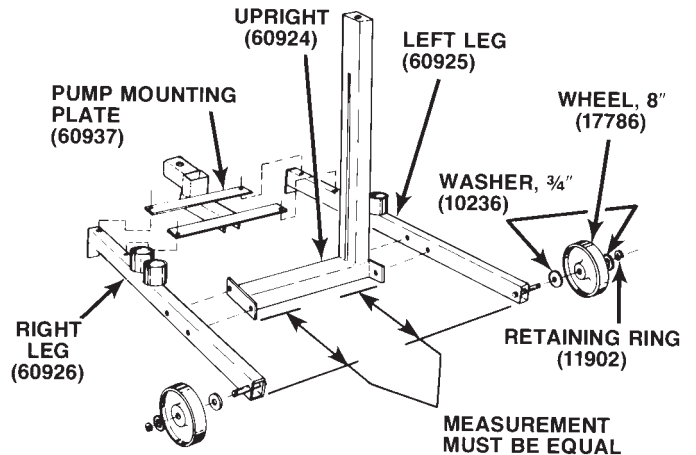

Figure 1
See Figure 1:
1. Adjust vertical set-up by using the crank handle shown in Figure 1. The centerline of the object being pulled must be on the same centerline as the puller head. **Note: Because of spring loading, you may have to turn the crank handle several times before the head starts moving.**